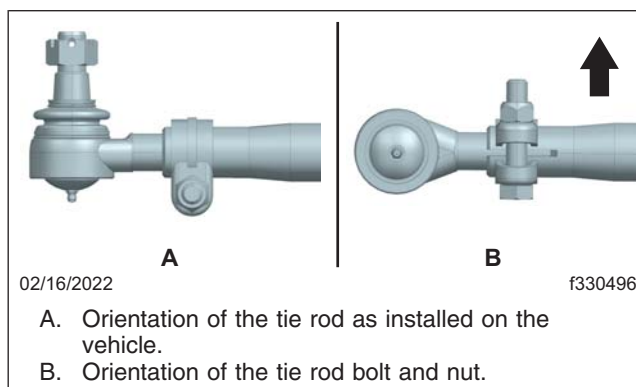
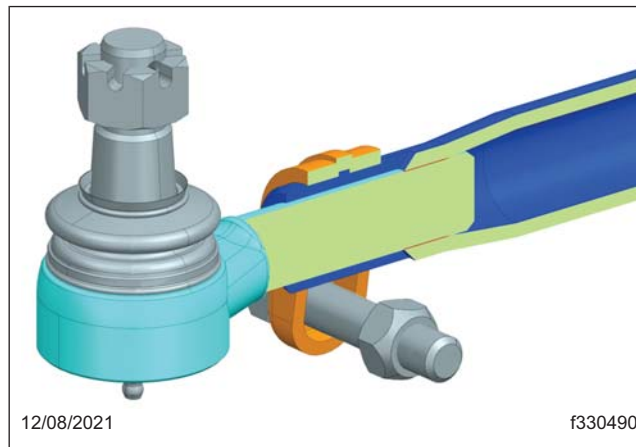
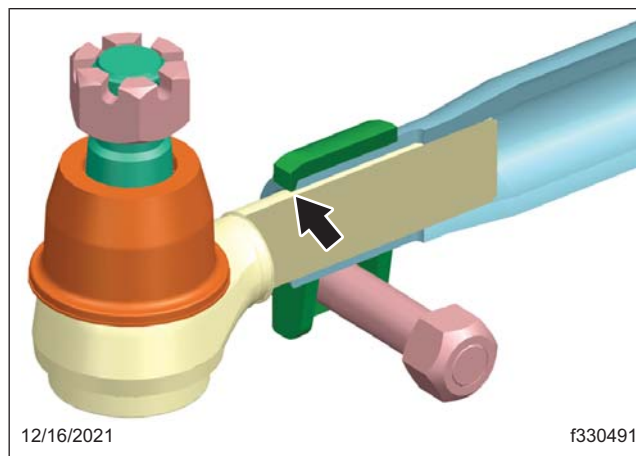

Fig. 3, USK Tie Rod Bolt Orientation
Fig. 4, USK Factory Tie Rod
Fig. 5, TRW Aftermarket Tie Rod
3. Adjust the tie rod until the other end of the tie rod can be installed into the spindle on the other side of the vehicle. Install the other tie rod end into the spindle. Install the new castle nut and hand tighten it. **Fig. 3** shows the USK tie rod bolt orientation. **Fig. 4** and **Fig. 5** show adjustments for each type of the tie rod.